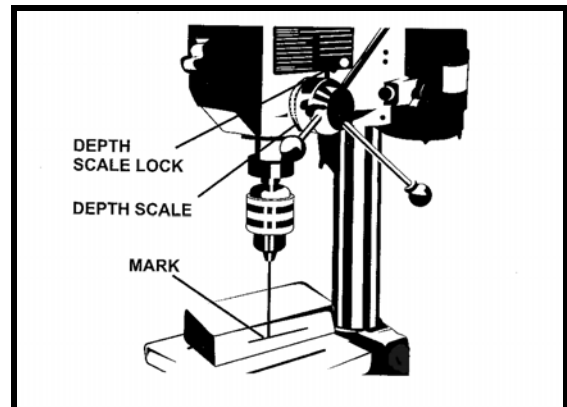

FIG.17
3. With the switch to the off position, bring the drill bit down until the tip of the bit is even with the mark on the side of the workpiece. (Fig 17)